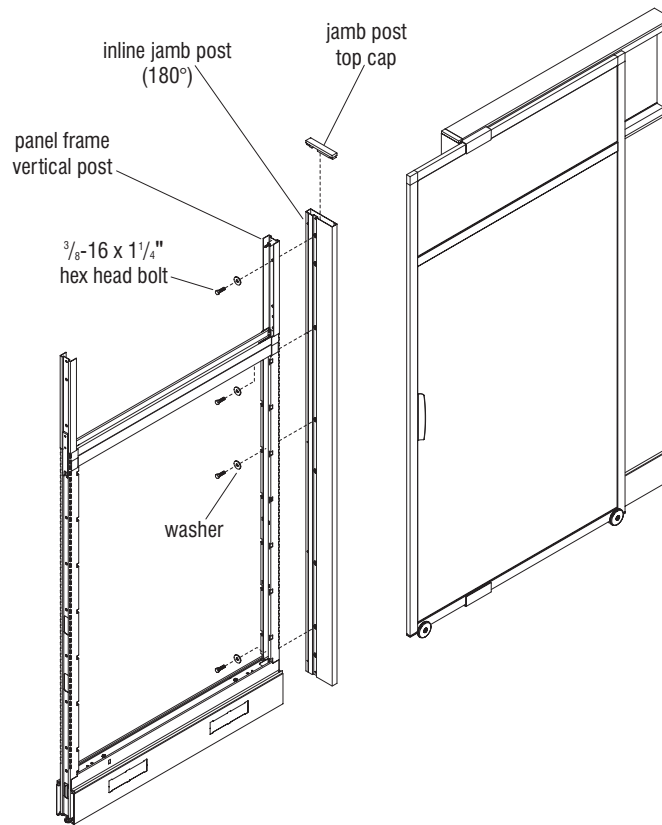

Figure 9
**Note:** The inline jamb post will install to the end of a panel frame, opposite a panel with the rolling door installed to it (see Figure 9). Refer to instructions at the beginning of this manual (pages 3-8, figures 1-6) for proper assembly and installation of the rolling door and components.
1. Position the inline jamb post against the panel frame vertical post such that roughly one inch of the jamb post extends into the walkway. From inside the panel, fasten the jamb post to the vertical post of the panel frame using four  $\frac{3}{8}$ -16 x  $1\frac{1}{4}$ " hex head bolts and washers (Figure 9).
2. Press the jamb post top cap into top of inline jamb post (Figure 9).